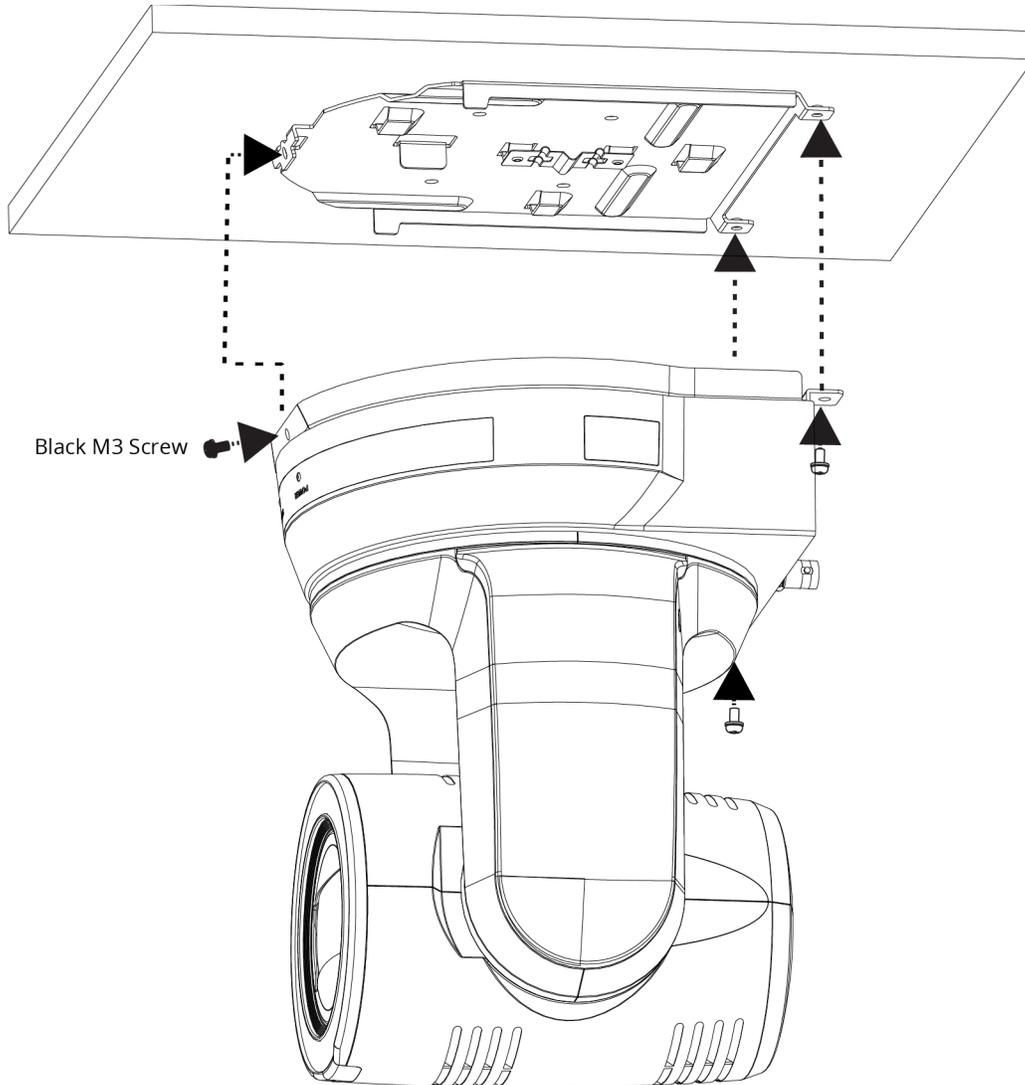

Figure 18 - Fastening Mounting Plates Together, to Mount the Camera to the Ceiling
4. Align the two metal plates and then fasten them together using two silver M3 screws (back) and one black M3 screw (front). Screws are included. See Figure 18.